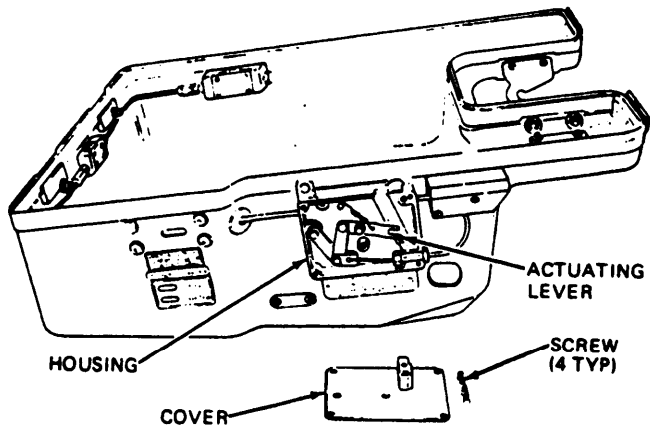

Figure 7-4.—Pushing actuating lever down.
2. Push actuating lever down (fig. 7-4).